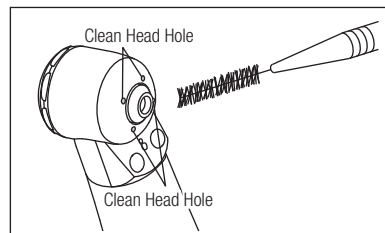

Fig. 2
- Brush off the debris at the Clean Head Holes. Do not use a wire brush. (Fig. 2)